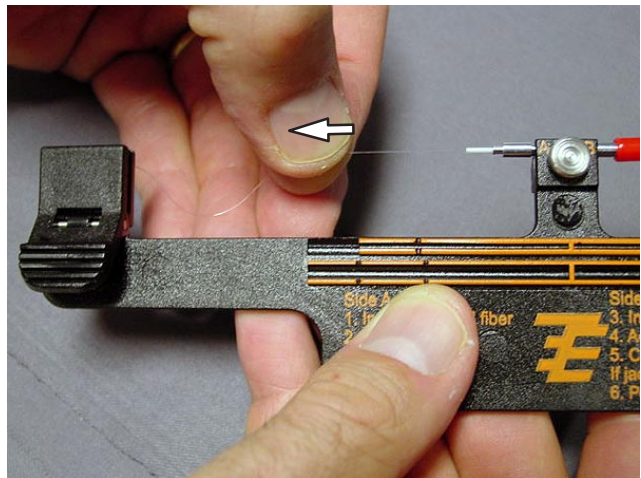

Figure 39
2. Holding on to the coated fiber, align the fiber with the splice and carefully insert the fiber into the splice until it stops. See Figures 39 and 40.